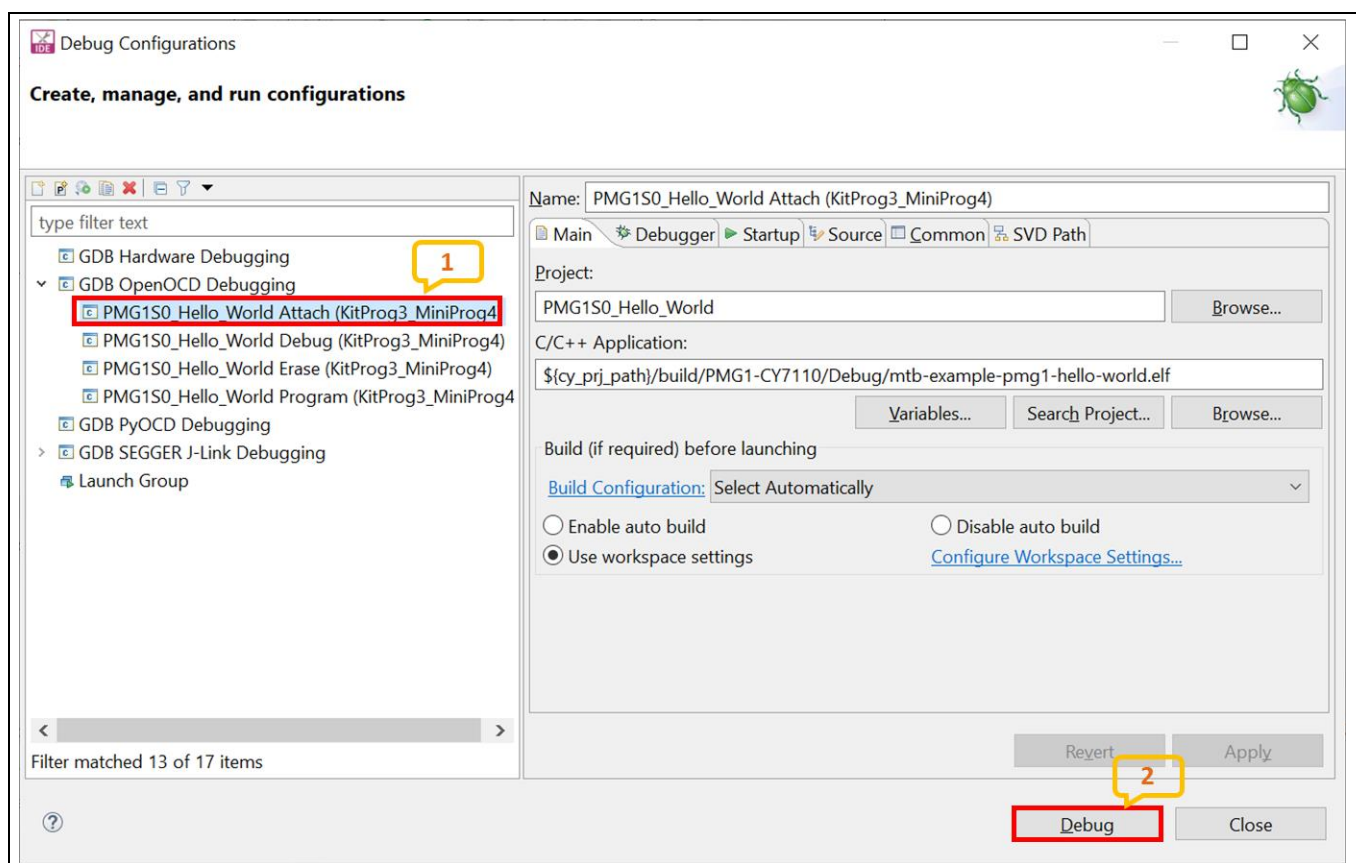

Figure 44 Selecting debug attach and starting a debug session
8. Under GDB OpenOCD Debugging, select **<Application name> Attach (KitProg3_MiniProg4)** and click on **Debug** as shown in Figure 44.